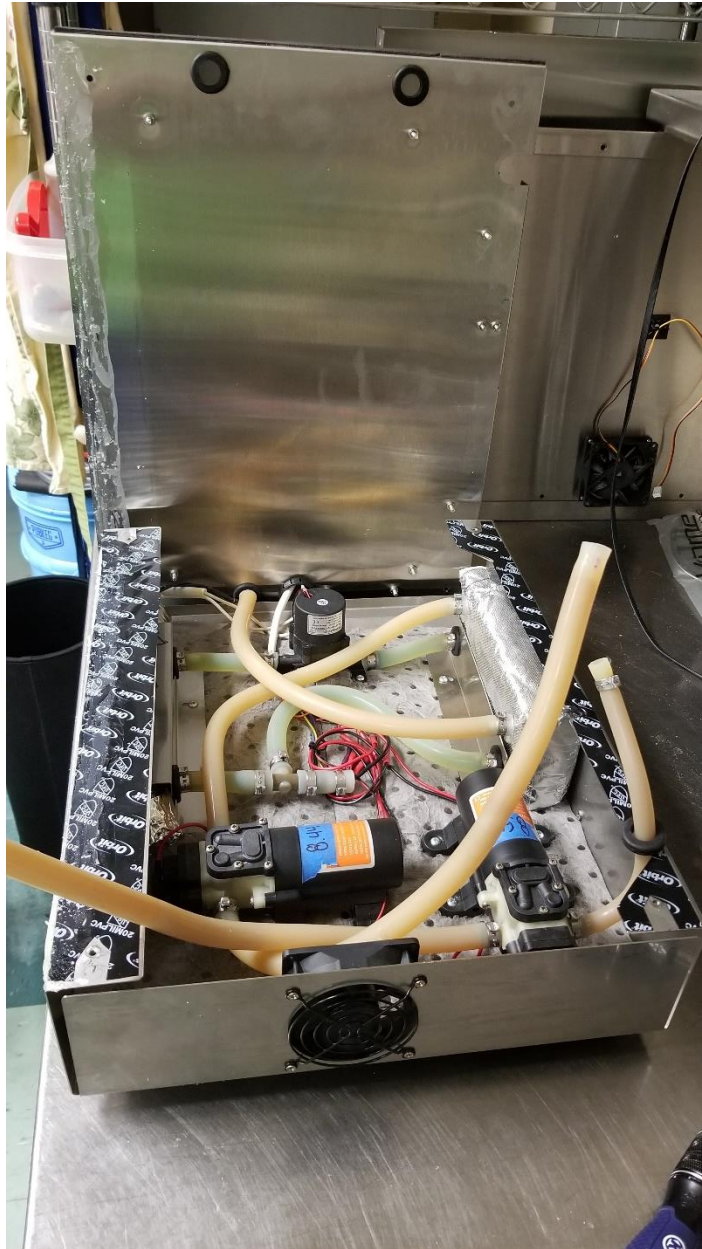

Figure 13
2. Once it is separated, gently rotate the upper part of the Zymatic counter-clockwise (as you are facing the front) and lay the top half on its side right next to the base. See Figure 13.